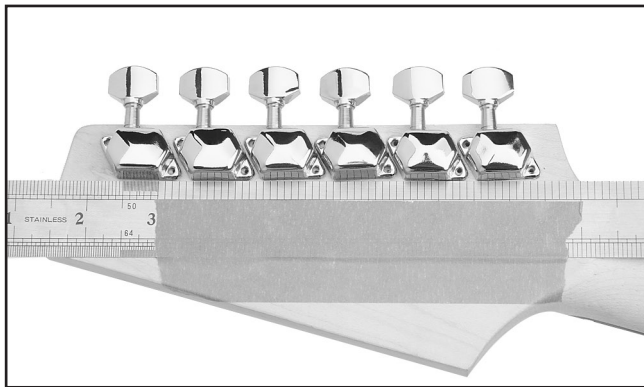

Figure 18. Tuners aligned.
2. Use a ruler to align the tuners so they are parallel, and mark the mounting holes as shown in **Figure 18**.